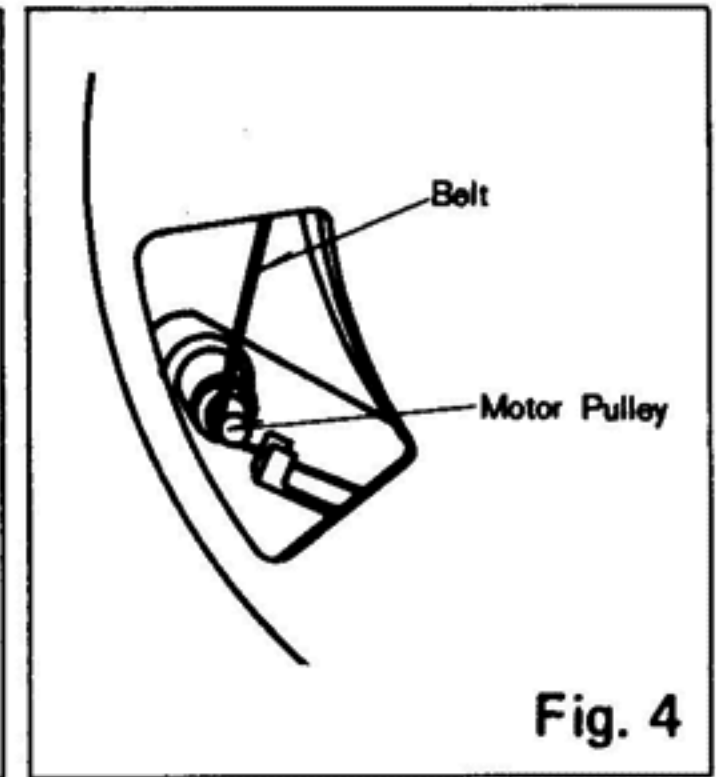

Fig. 4
- b. Attach the turntable to the turntable shaft. Then hold the belt and put it on the motor pulley. Make sure not to twist the belt. (Fig. 4)